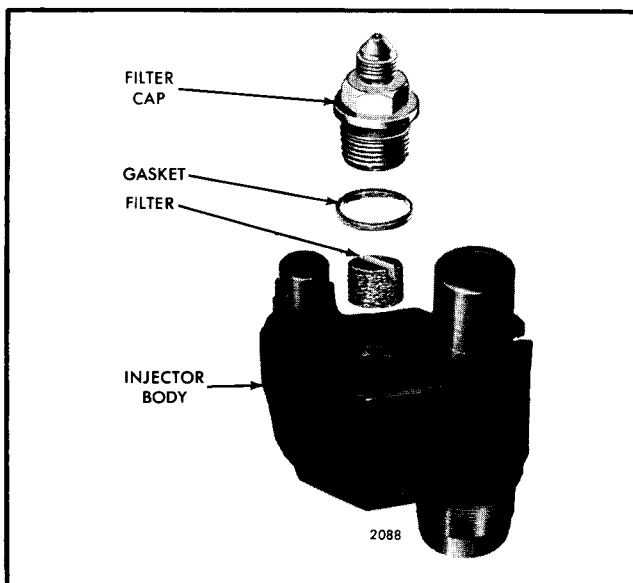

Fig. 30 - Details of Injector Filters and Caps and Their Relative Location
Study Figs. 30 through 32 for the proper relative position of the injector parts, then proceed as follows:
1. While holding the injector body right side up, place a new filter, slot in the filter up or toward the filter cap, in each of the fuel cavities in the top of the injector body (Fig. 30).